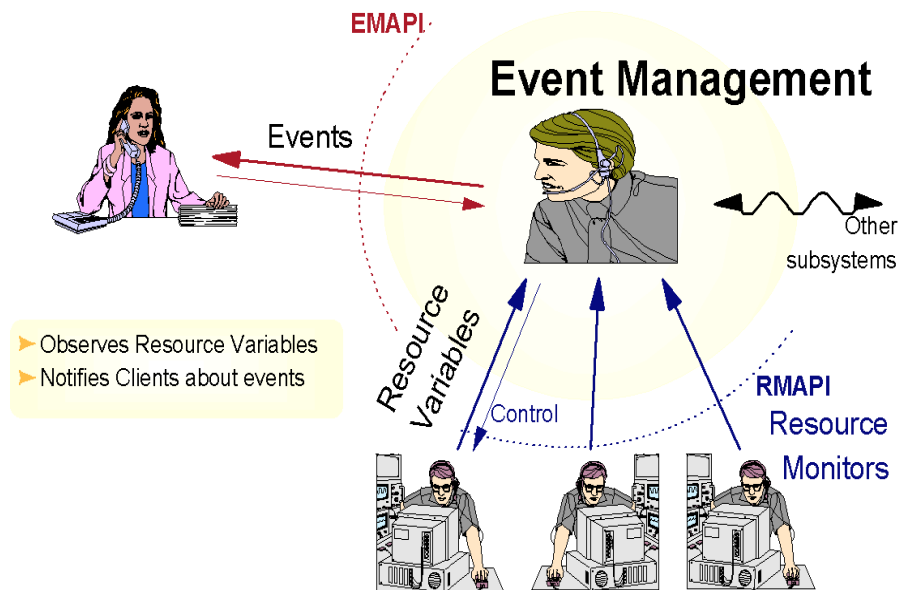

Figure 137. EM Design
Event Management (EM) provides an application for comprehensive monitoring of hardware and software *resources* in the system. A resource is simply an entity in the system that provides a set of services. CPUs execute instructions, disks store data, and database subsystems enable applications. You define what system events are of interest to your application, register them with EM, and let EM efficiently monitor the system. Should the event occur, EM will notify your application. Figure 137 illustrates EM's functional design.